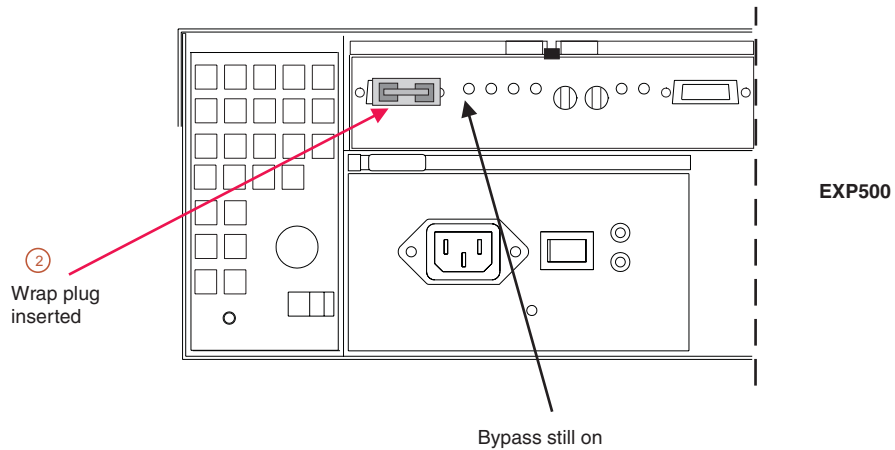

Figure 157. Insert wrap plug
2. Insert a wrap plug in the element from which you disconnected the cable. See Figure 157.